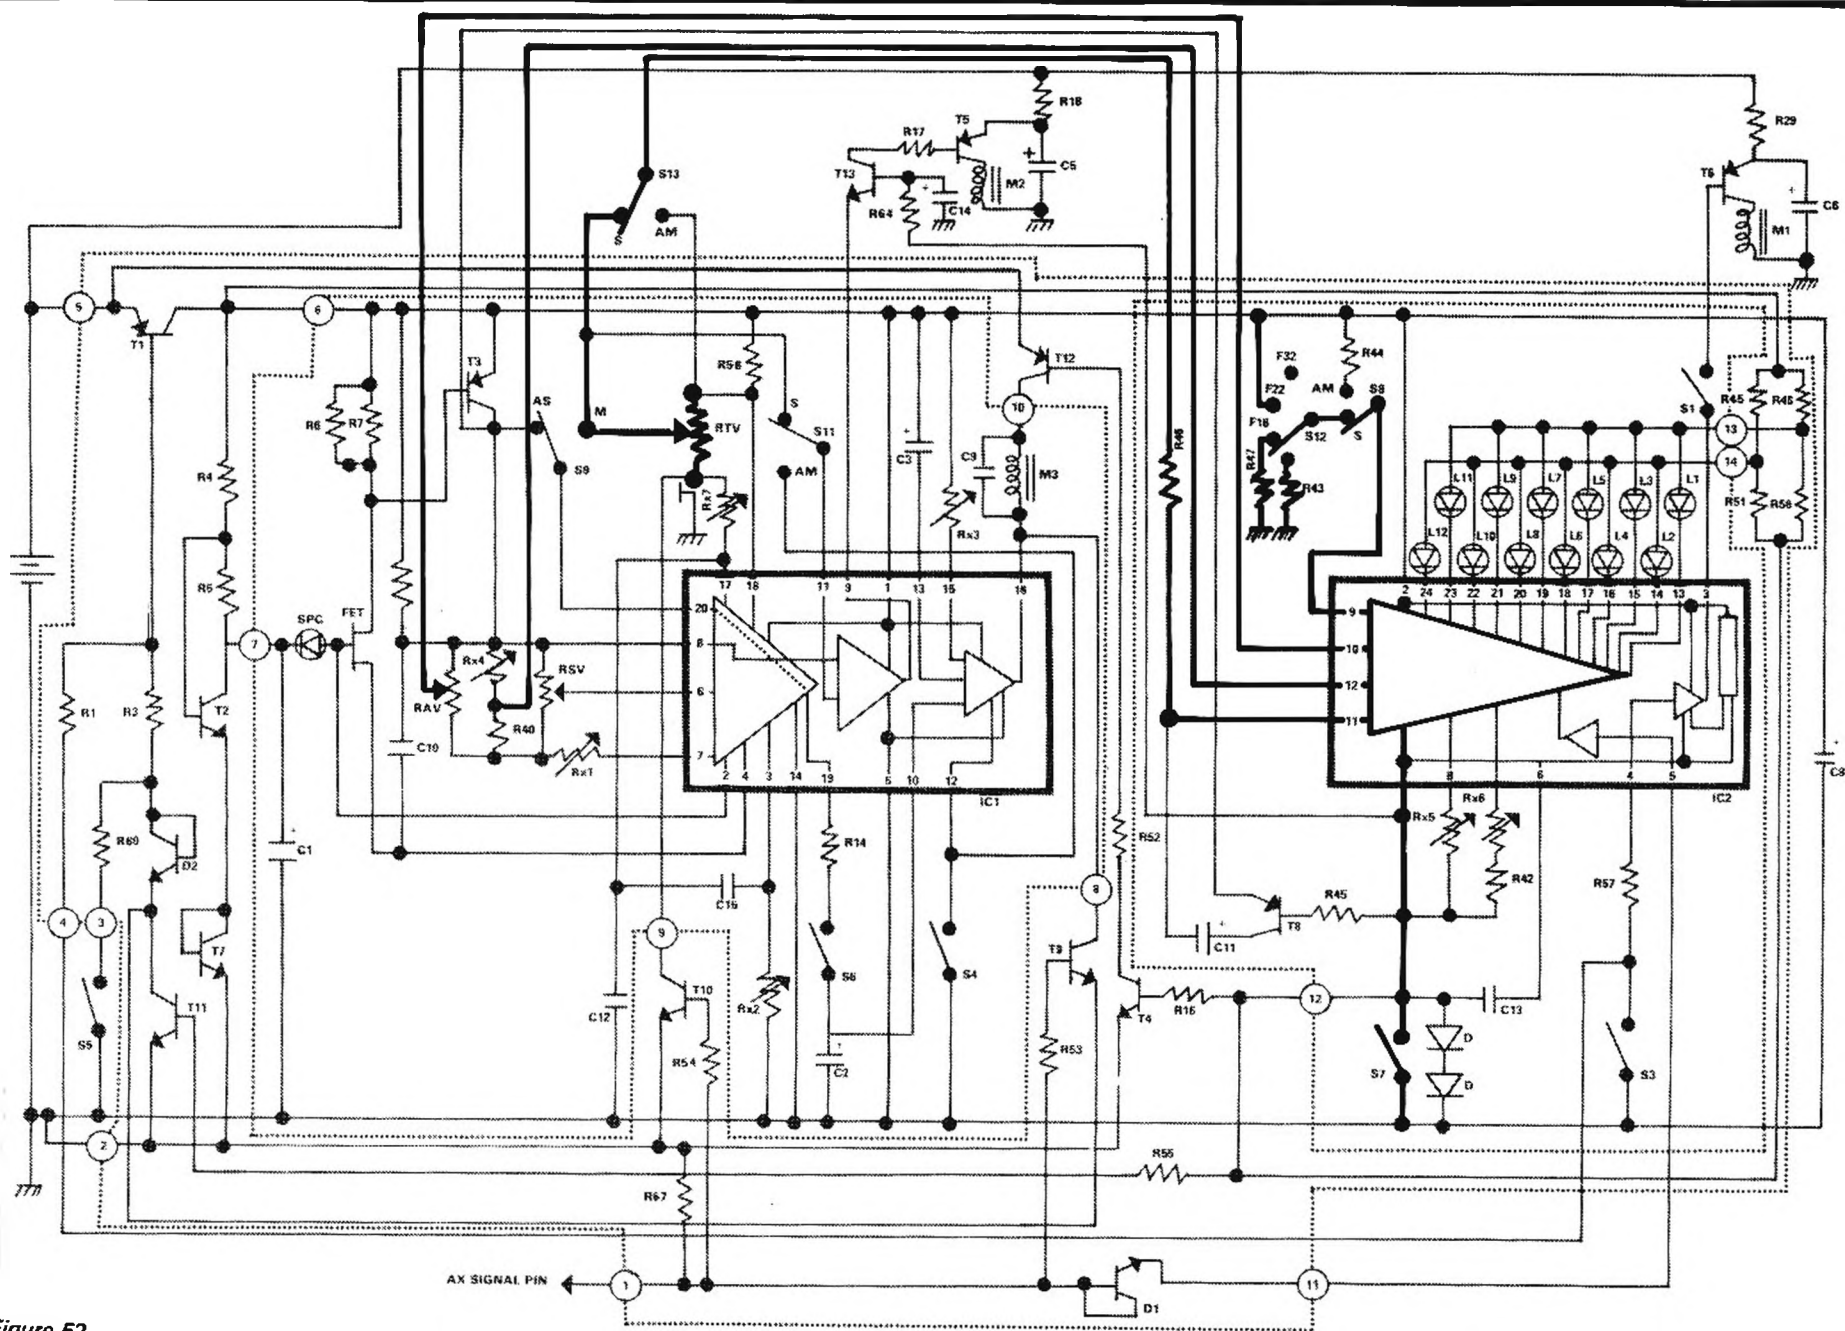
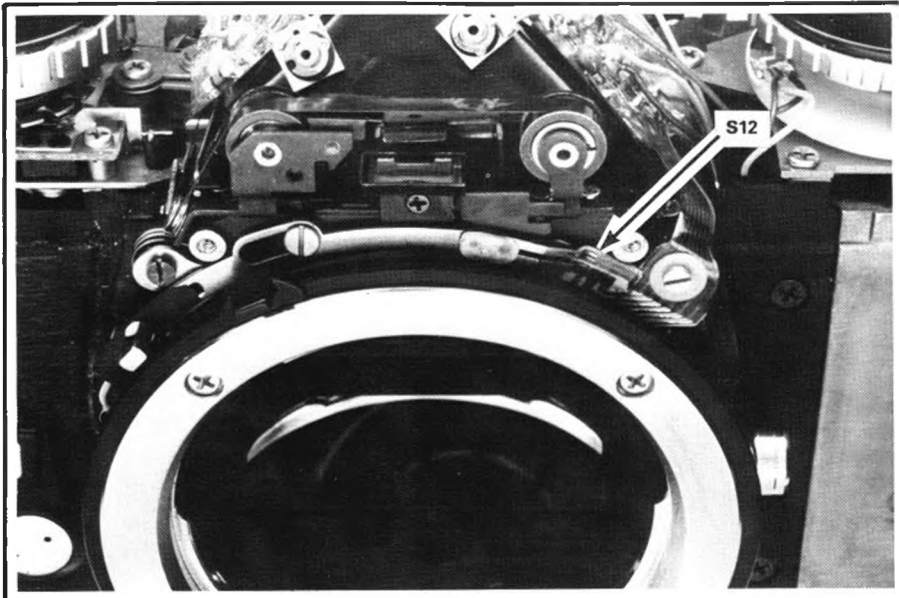
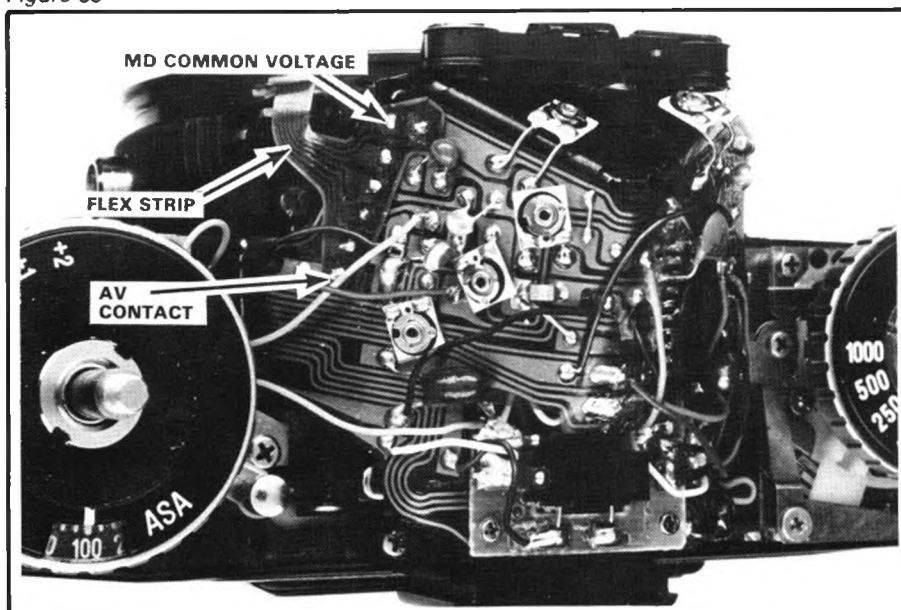

Figure 52
Figure 53
Figure 54
You can follow the connections in Fig. 52. The diaphragm information (AV) appears at pin 10 of IC2. At pin 12, IC2 receives the light-level (BV) and film-speed (SV) information. The shutter-speed information (TV) from the shutter-speed resistor RTV goes to pin 11.
When you select the S mode, IC2 also receives the minimum-aperture information at pin 9. Switch S12 at the front of the camera, Fig. 53, selects a resistance value according to the minimum aperture of the lens. With no lens installed, notice that the S12 brush rests at the center of the first resistance path, Fig. 53. Installing the f/16 MD lens set to the smallest aperture moves the brush to the second resistance path — the resistor labeled R47 in Fig. 52.
The f/22 lens moves the brush to the third resistance path; here, the S12 brush connects pin 9 of IC2 directly to positive battery, Fig. 52. With the f/32 lens, the brush moves off the resistors to an open portion of the board.
Notice in Fig. 52 that the part of the mode selector labeled S8 connects the minimum-aperture switch S12 to pin 9 at the S setting. Then, with the release button partially depressed, you should measure a voltage at pin 9 — a voltage which corresponds to the position of S12.
What if the IC fails to receive the MD common voltage signal? You'll then find that the LED readout won't display the diaphragm setting at the S mode. Although you can't reach pin 9 of IC2, you can check the MD common voltage at the top of the camera; just measure the voltage to the connection from the minimum-aperture resistor shown in Fig. 54.
If cleaning the mode selector doesn't solve the problem, suspect the minimum-aperture resistor. Also, it's possible that you have a break in the strip of flex circuit, Fig. 54. The flex-circuit strip connects the minimum-aperture and diaphragm resistors to the main circuit board. In that case, you'll have to replace the complete resistor board, Fig. 53; we'll describe the procedure in a moment.
Poor contact in the diaphragm resistor also causes the overexposure LED to remain on. You can use another voltage check to test the diaphragm resistor after removing the top cover. Measure the voltage between ground and the AV contact, Fig. 54; you should measure around 2.9V with the release button partially depressed. Now rotate the diaphragm-metering ring against its spring tension as you monitor the voltage. You should see the voltage smoothly decrease to around 2.8V.
That's as far as you'll have to go in disassembly to clean the brushes and the resistor board. However, replacing the resistor board requires a little more work. First unsolder the seven connections joining the resistor-board flex strip to the main flex circuit, Fig. 54. A new resistor board comes with the strip of flex circuit:
As mentioned earlier, the LED display turns off when you release the shutter. When M1 repels its armature, switch S7 opens, Fig. 52. Opening S7 disconnects IC2 from ground. So, if S7 fails to make good contact, none of the LEDs will turn on.